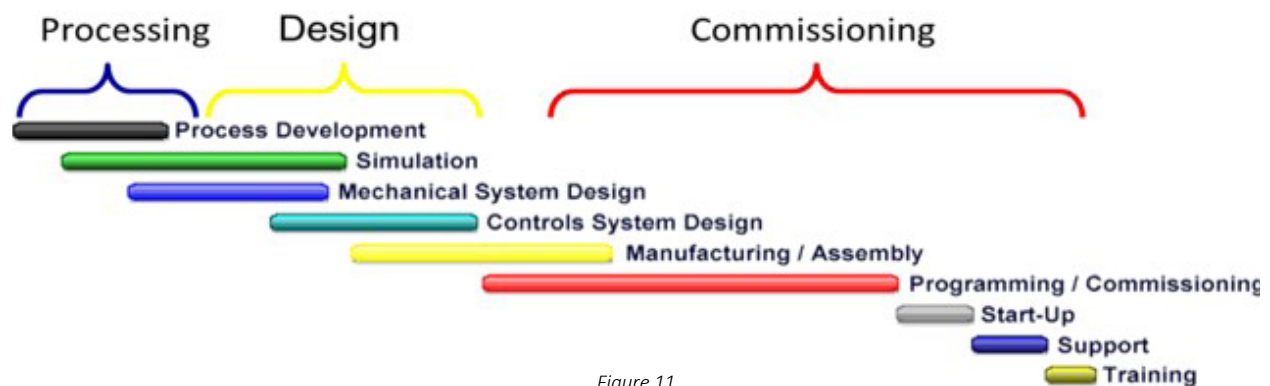

Figure 11
- Stick with the process in Figure 11 and don't skip steps, especially in these areas: